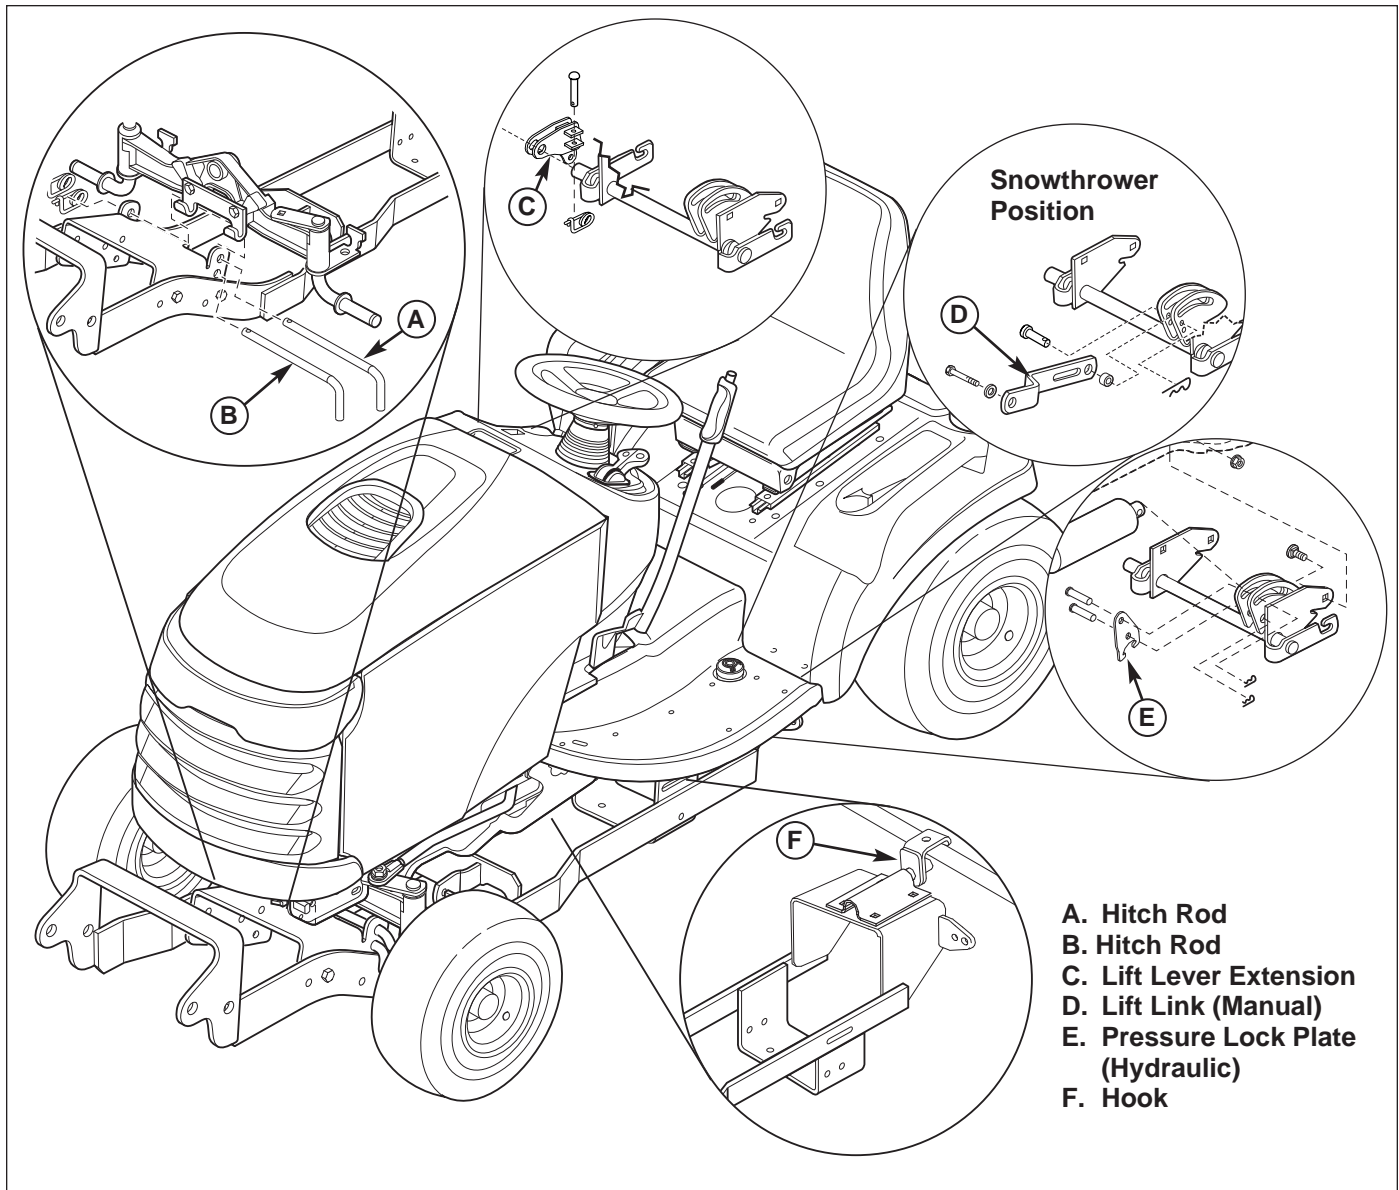

Figure 11. Normal Installation & Removal
1. Disconnect the lift rod from the attachment and lift lever extension (C, Figure 11).
2. Remove the clevis pin and clip from the lift lever (C) and remove the lift lever.
3. Remove the front hitch rod (A) and (B). Remove the hitch and hook (F).
4. Remove the lock plate (E) OR reposition the lift link (D) in mowing position.
1. Insert the hook (F, Figure 11) into the back of the hitch. Mount the rear of the hitch on the lift cross-shaft.